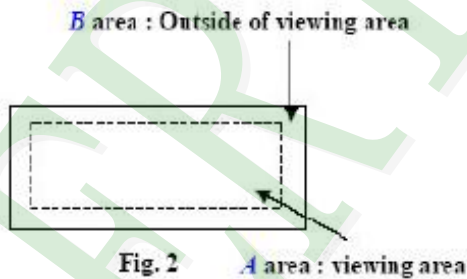

Fig. 2
- (4). Definition of area . (Fig. 2)